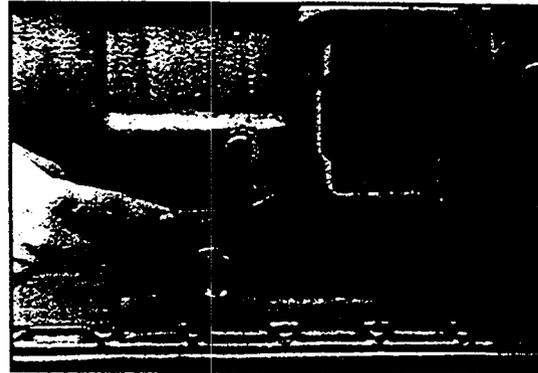

Fig. 2
2. Discard the cover plate and cover plate gasket, and then clean the aperture pad using a putty knife or wire brush. (See Fig. 2.)